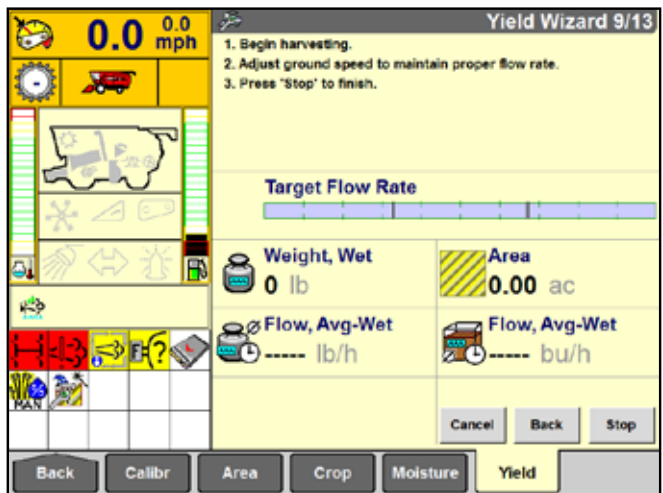

Figure 19.4
- Operator can choose to apply Actual values immediately, or at a later time (see figure 19.4)